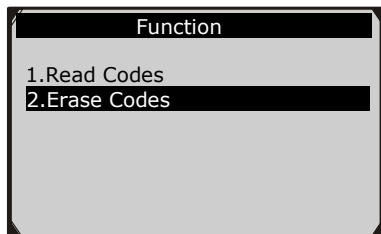

Figure 6.8
1. Use the **UP/DOWN** scroll button to select **Erase Codes** from **Function** menu (Figure 6.8), and press **OK** button.